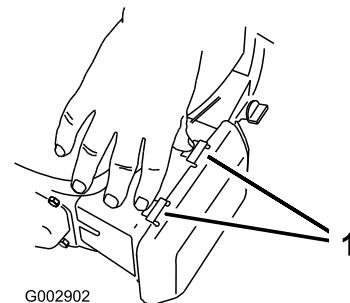

Figure 37
1. Press down on the latch tabs on top of the air-cleaner cover (Figure 37).